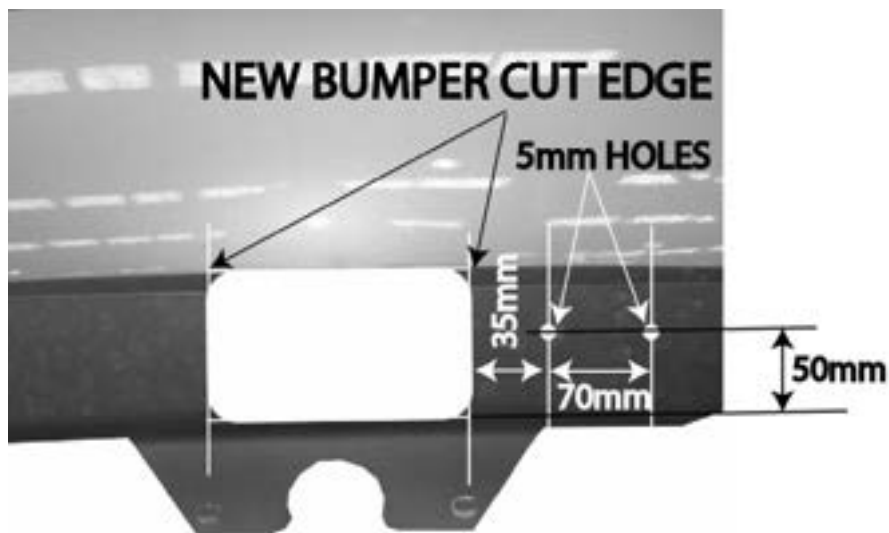

Figure 3 – Plug bracket holes illustration.
7. Drill holes x 2 (5mm) on the driver side as shown in Figure 3, to fit the plug bracket from inside.